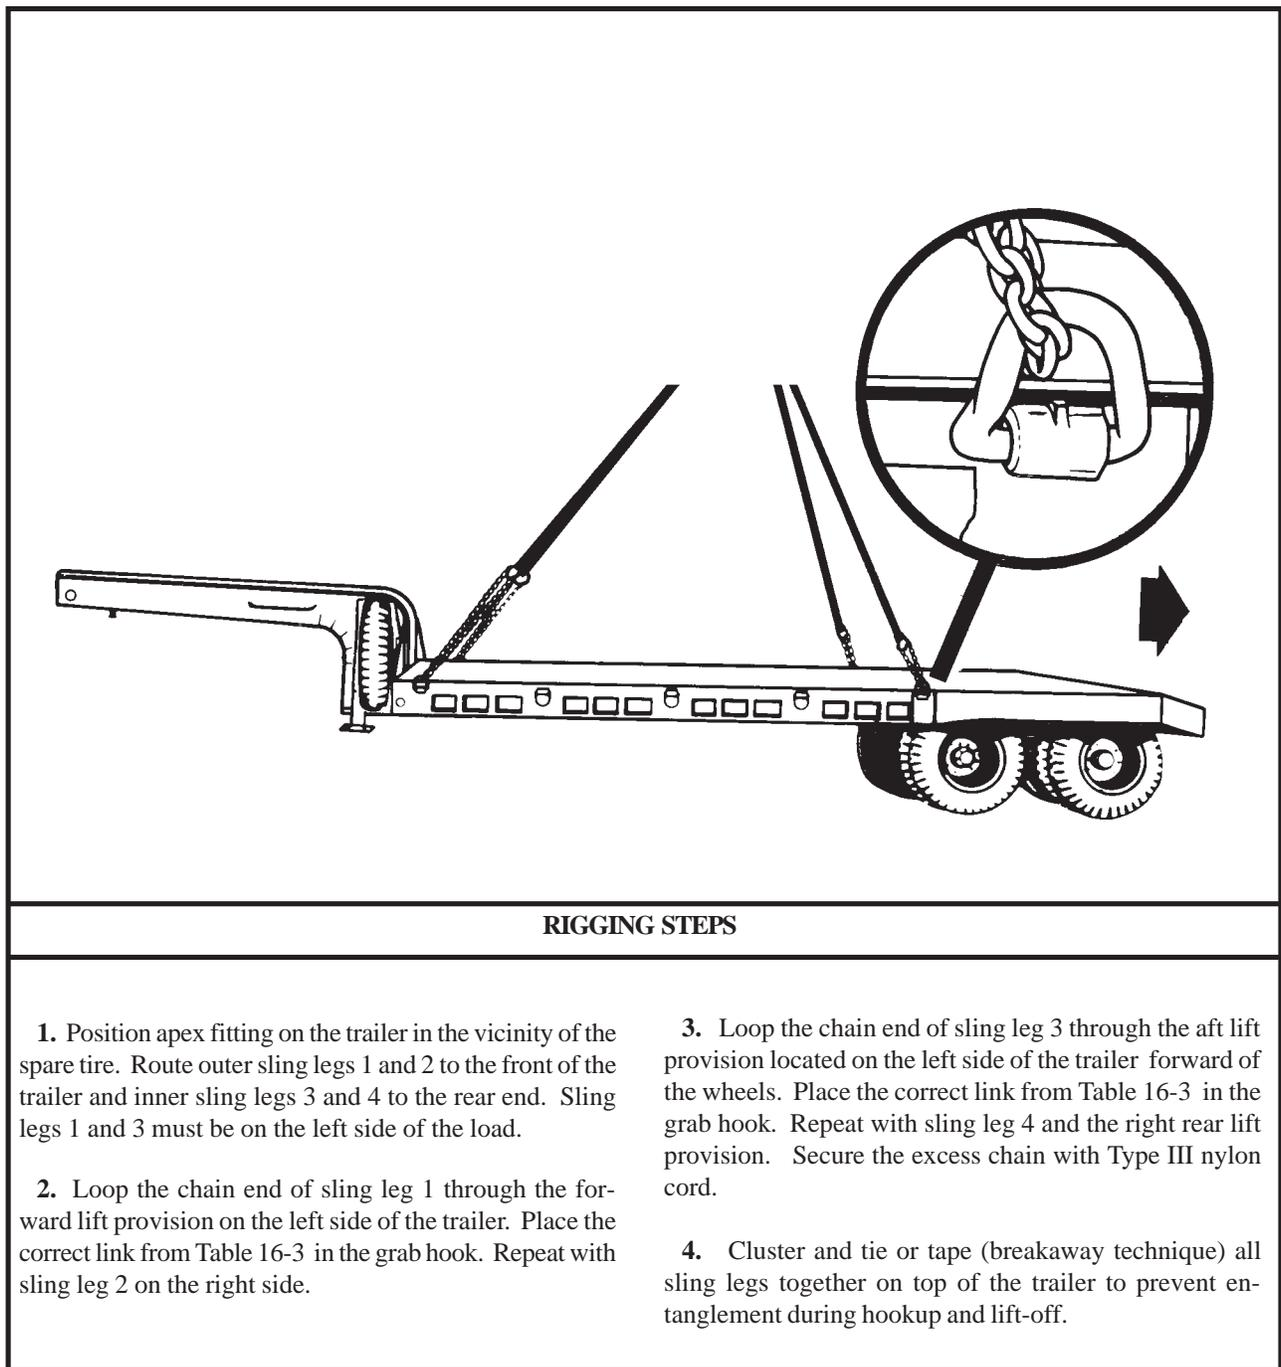

Figure 16-3. M172A1 Semitrailer, Lowbed
(2) **Rigging.** Rig the load according to the steps in Figure 16-3.
(4) **Derigging.** Derigging is the reverse of the preparation and rigging procedures in steps d (1) and d (2).